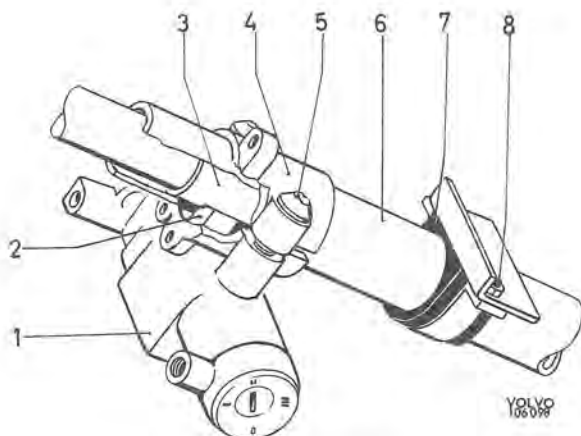

Fig. 6-35. Steering wheel lock
The lever shaft (20) is journaled in the steering box and side cover by means of needle bearings, see Fig. 6-35. Sealing between the valve housing and the upper section of the housing as well as between the intermediate piece and steering cam is catered for by O-rings and plastic rings.